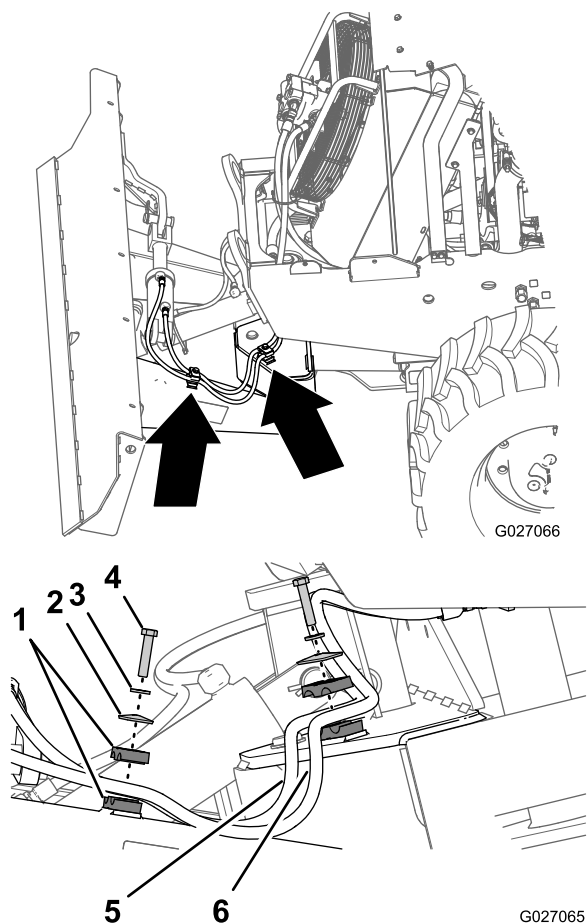

Figure 44
8. At the weld nut on the left lift arm, secure the hoses with 2 clamp blocks, bolt (3/8 x 1-3/4 inch), washer (3/8 inch), and cover plate (Figure 44).
9. At the weld nut on the top plate of the pivot frame, secure the hoses with 2 clamp blocks, bolt (3/8 x 1-3/4 inch), washer (3/8 inch), and cover plate (Figure 44)
Note: Ensure that there is slack in the hoses between the clamp blocks at the lift arm and the pivot frame (Figure 44).